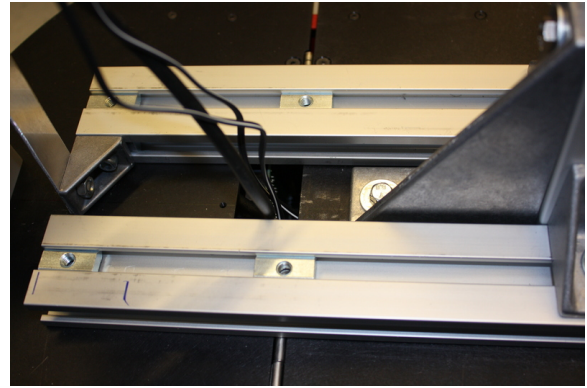

Figure 25: Cables come out from there
10. Now fix the robot top plate back on the robot. The power cables and the laser cable should come out from the square hole near the hinge on the top plate (figure 25).